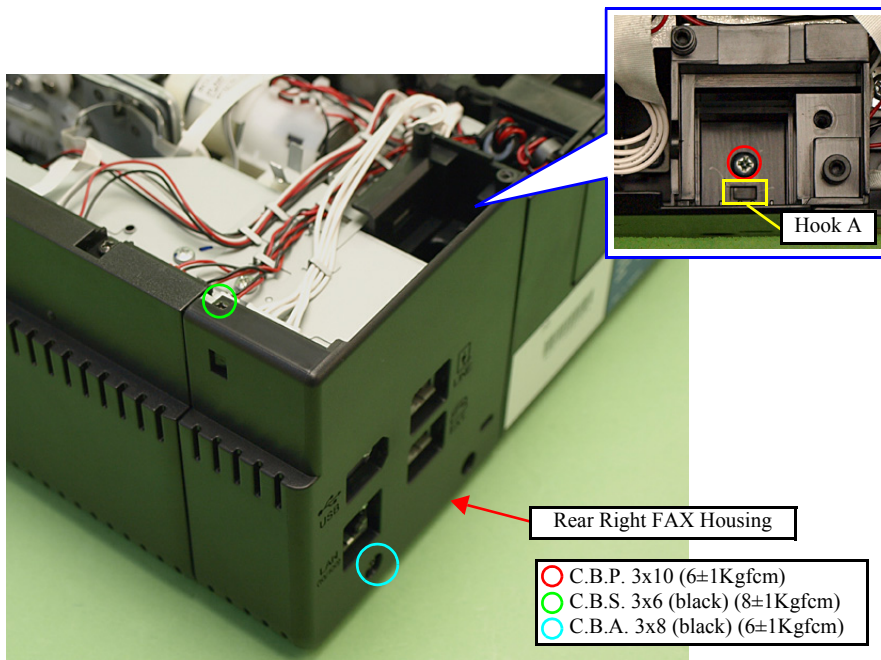
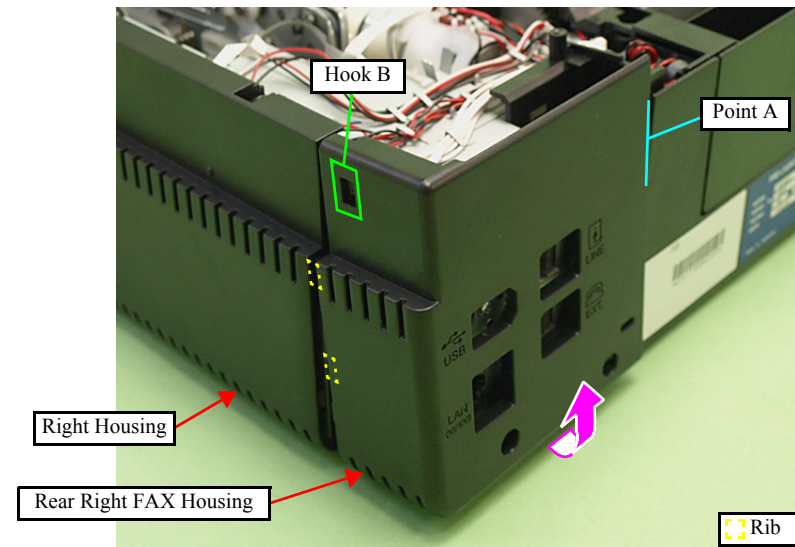

Figure 4-27. Removing the Rear Right FAX Housing (1)
Figure 4-28. Removing the Rear Right FAX Housing (2)
2. Release the ribs (x2) and hook B on the right side, and also release the hook A in Fig. 4-27, then remove the Rear Right FAX Housing by lifting it in the direction of the arrow in Fig. 4-28.
- When installing the Rear Right FAX Housing, insert the ribs (x2) of the Rear Right FAX Housing to the inside of the Right Housing. (See Fig. 4-28.)
- When installing the Rear Right FAX Housing, align the point A of the Rear Right FAX Housing with the inside of the Base Frame. (See Fig. 4-28.)